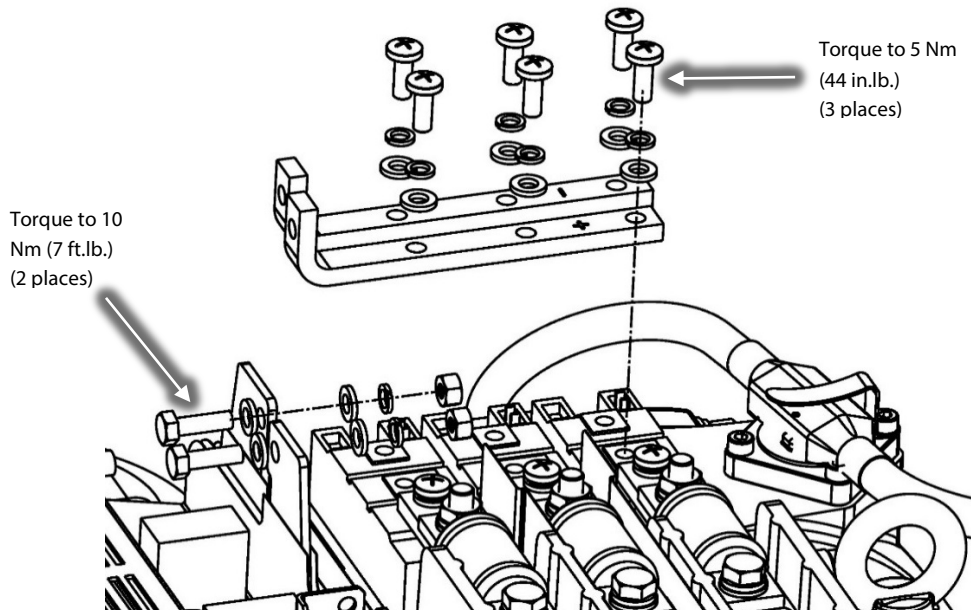

Figure 3 – DC Bus Bar Removal
7. Using a 10 mm combination wrench, remove the attaching hardware that secures the (+) and (-) diode bus bars to the DC bus bars and remove the diode bus bars. Refer to Figure 3 (DC Bus Bar Removal) for this both this step and the following step.
8. Remove the six (6) screws that secure the (+) and (-) diode bus bars to the rectifiers.